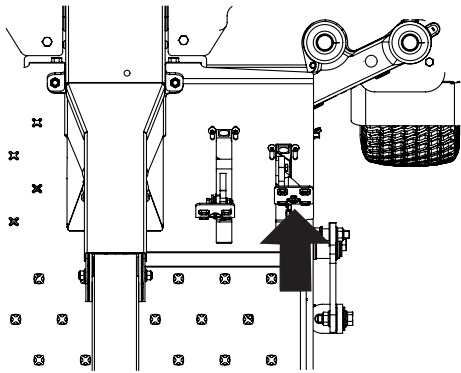

Figure 3-5
1. Slowly push the reverse drive pedal forward. The tractor will start to move in the reverse direction. See Figure 3-5.